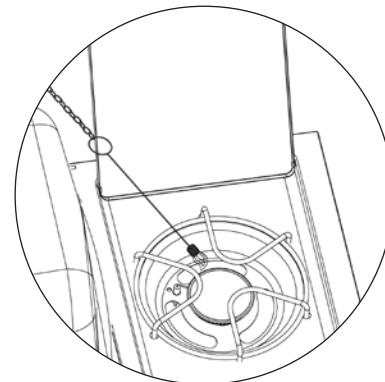

Figure 9
9. After lighting, observe the burner flame, make sure all burner ports are lit and flame height matches illustration. (Figure 9)